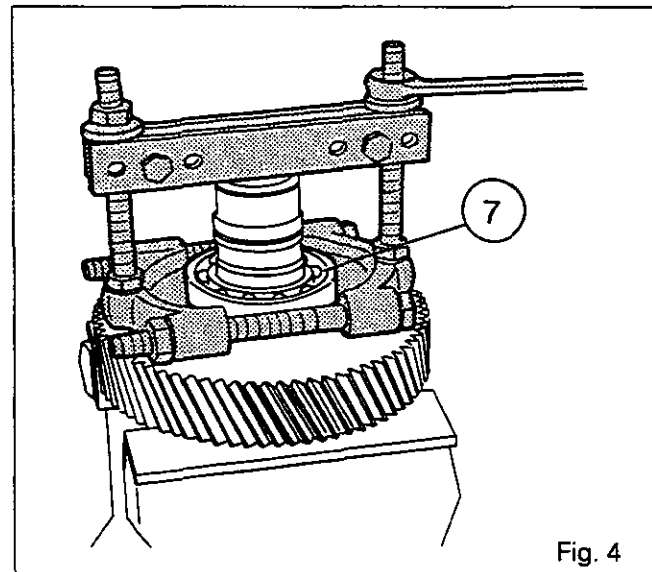
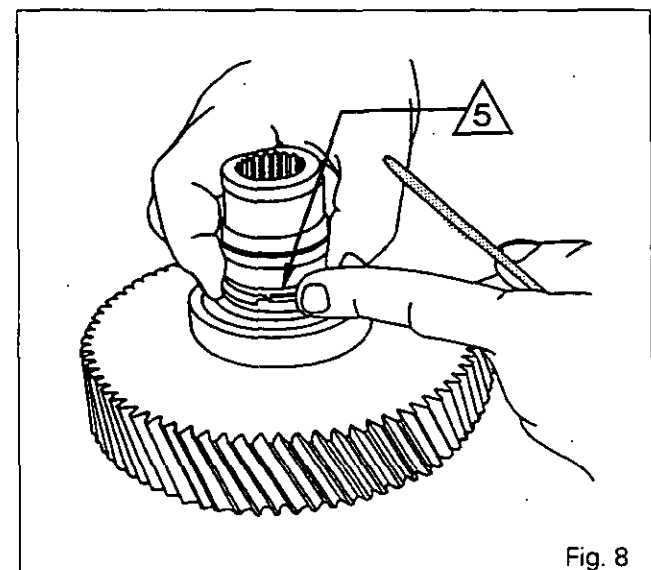

Fig. 4
Fig. 8
29. Remove the seal rings (5) (Fig. 8). Extract the ball bearing (7) (Fig. 4).
38. Place the seal rings (5) in their grooves and join up the ends (Fig. 8). Ensure that they turn freely.
40. Slide the sleeve (4) on to the seal rings, taking care not to damage them.